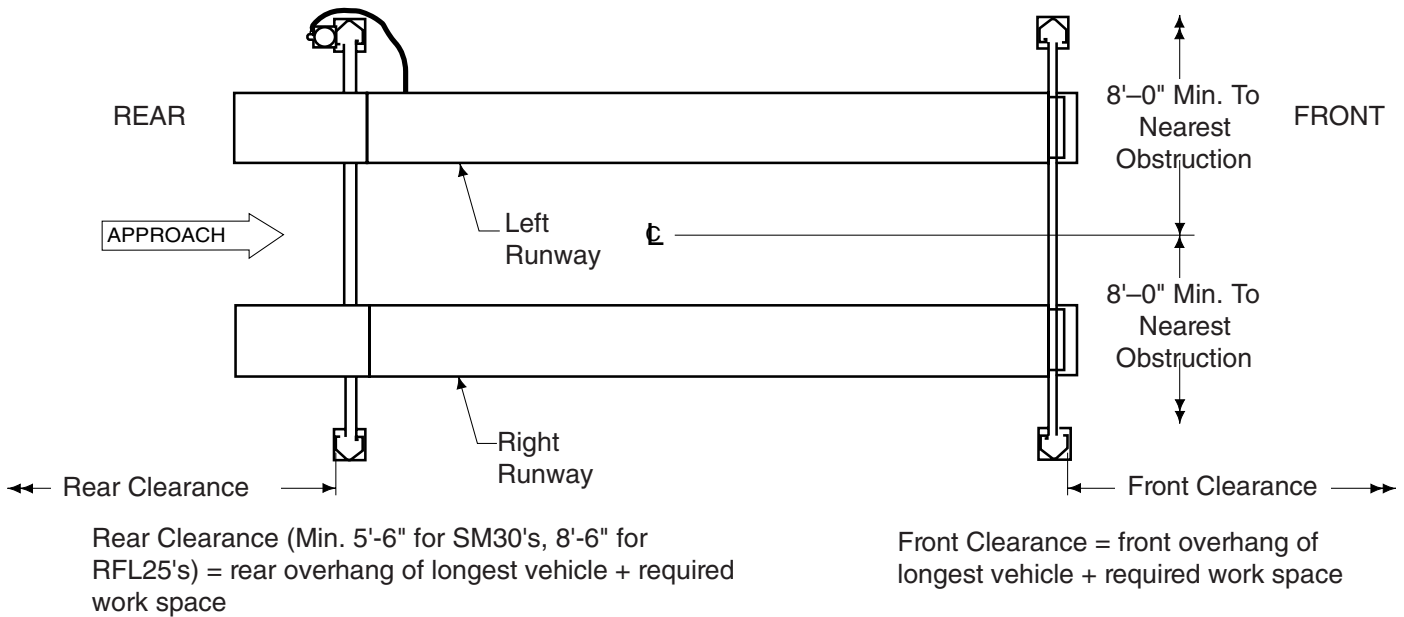
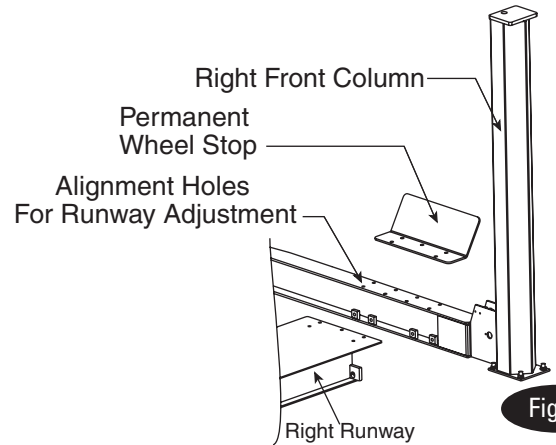
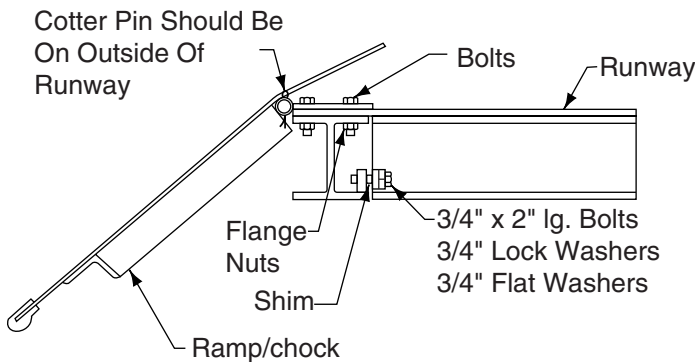
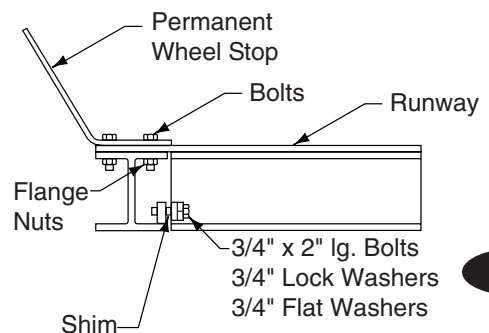

Fig. 1
Fig. 4
Fig. 5
Fig. 6
1. Lift Location: Use architects plan when available to locate lift. Fig. 1 shows dimensions of a typical bay layout. For power unit at right front, rotate lift 180°, leaving ramp/chocks and wheel stops in original position. Lift floor area should be level.
- C. Position front and rear yokes at respective ends of runway, Fig. 1. Feed cable ends through yoke end, Fig. 4. Do not assemble sheaves in yoke ends at this time.
- D. Lay right runway in place on yoke. Slide right runway toward outside of lift until holes in yoke and runway line up, Fig. 4. Hold runway in place and bolt on ramp/chock and wheel stops to runway using ten $\frac{5}{8}$ " x $2\frac{1}{2}$ " bolts and flange nuts. Square up yokes with runways using four $\frac{3}{4}$ "-10NC x 2" lg. bolts, $\frac{3}{4}$ " flat washers, $\frac{3}{4}$ " lock washers, and shims. Ramp/chocks go on rear, Fig. 5. and Fig. 6. Repeat for left runway.
- A. Keep columns square to center line of lift. Check lift location in the bay, Fig. 1. Check dimensions side-to-side, front-to-rear, and diagonally. Diagonals must be equal to within $\frac{1}{4}$ " , Fig. 9. for each column.